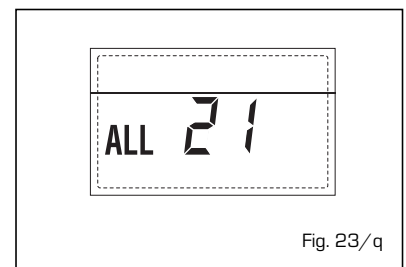

Fig. 23/q
- SAFETY THERMOSTAT INTERVENTION SECOND MIXED ZONE "ALL 22" (fig. 23/r)